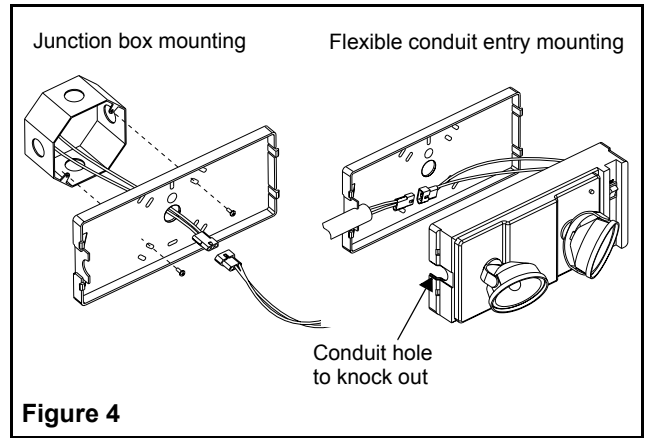

Figure 4
- a. For standard junction box mounting, knock out the desired hole pattern in the backplate. Route the connector through the large knockout and mount the backplate to the junction box (see fig. 4).
- a. For conduit entry, mount the backplate to the wall. Break out the conduit hole on the housing (see fig. 4). Assemble the conduit to the backplate.